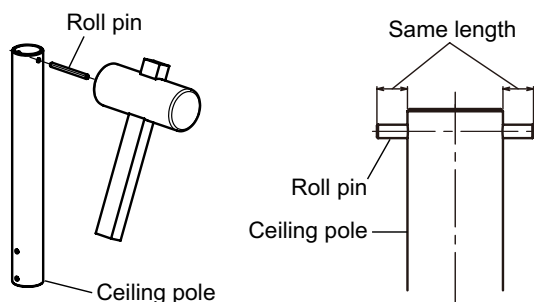

Fig.9 How to fix the roll pin to the ceiling pole
- (3) Attach the roll pin to the ceiling pole with hammer. See **Fig.9** below. Insert the ceiling pole into the ceiling flange and set the roll pin to groove on the ceiling flange.